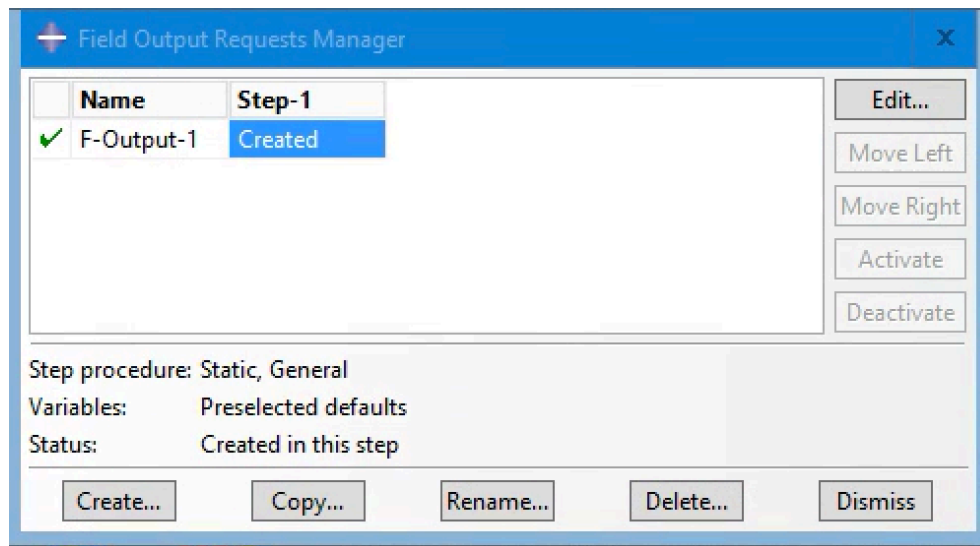

Figure 45 Editing field outputs
- It is worth mentioning that you can control what information is placed in the output database by modifying the output requests in the **Step** module. You may click on the **Field Output Manager** button to **Edit** current field output request or **Create** a new one. Figure 45 and 46 demonstrates the Field Output Requests Manager and Edit Field Output Request dialog boxes. (For more information see the following links: